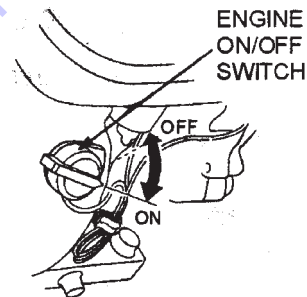

Figure 9. Engine ON/OFF Switch
5. Place the engine **ON/OFF switch** (Figure 9) in the **ON** position.